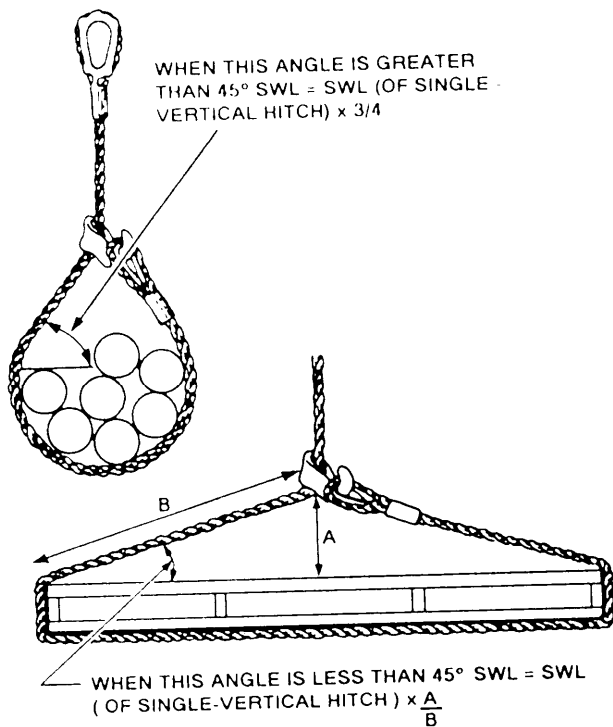

Figure 13-39.—Determination of single-choker hitch sling
**Single-choker hitch** (fig. 13-39): For sling angles of 45 degrees or more,  $SWL = SWL \text{ (of single-vertical hitch)} \times 3/4 \text{ or } .75$ .